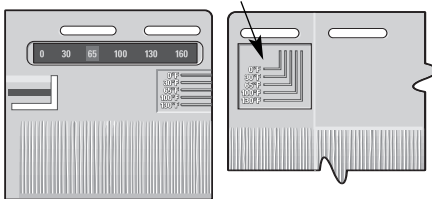

FIGURE 1
Each panel has a **PanelThermometer™** that displays panel temperature and indicator lines that serve as guides for proper spacing between the panels. The PanelThermometer is located on the upper right-hand corner of the panel; the indicator lines are on the upper left-hand corner (figure 1).
- 4) Install the next panel by positioning it below the starter strip and next to the first panel. Push in and up to lock the panel into the starter strip and the side tabs of the first panel, as shown in figure 5. Space the second panel according to the panel temperature at the corresponding temperature indicator lines (figure 1).